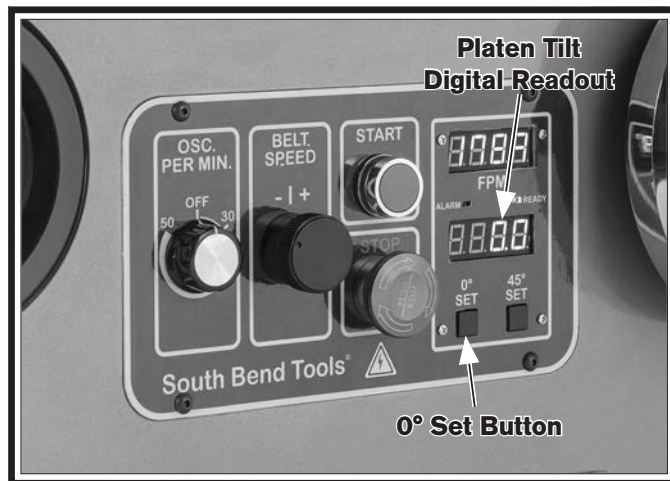

Figure 53. Location of platen tilt calibration components.
9. Press 0° set button to set platen tilt digital readout display to 0° (see **Figure 53**).